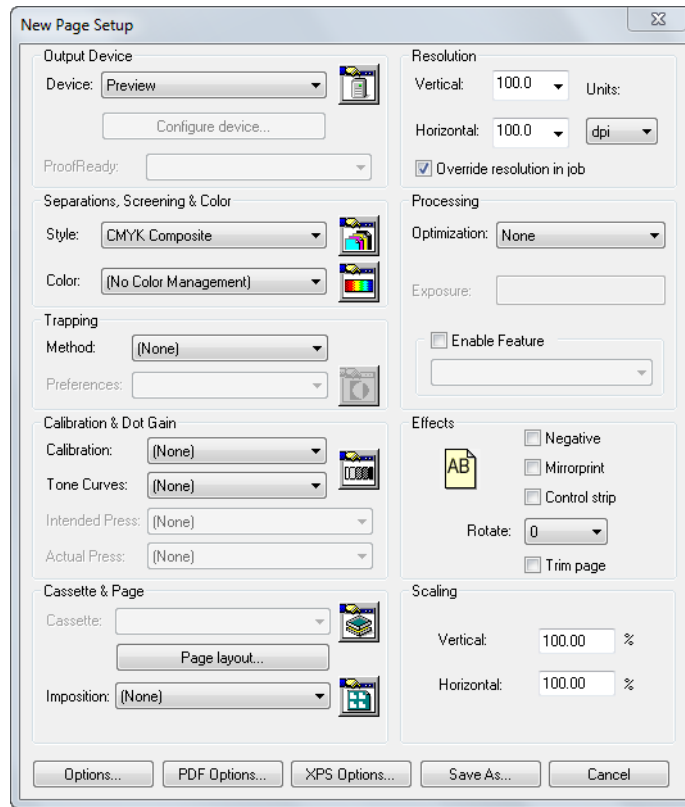

Figure 3.2 New Page Setup dialog box
3. In the Edit Page Setup dialog box, shown in Figure 3.2, set the **Device** to **None** and the **Vertical** and **Horizontal** resolutions to something small, say 72 dpi. If you change the **Device**, you must choose a separations style listed in the **Style** drop-down list and, for some devices, a cassette name from the **Cassette** drop-down list.
2. In the Page Setup Manager dialog box, select `Default Page Setup` and click **Copy** to display the New Page Setup dialog box. The New Page Setup dialog box is very similar to the Edit Page Setup dialog box, shown in Figure 3.2 on page 61.